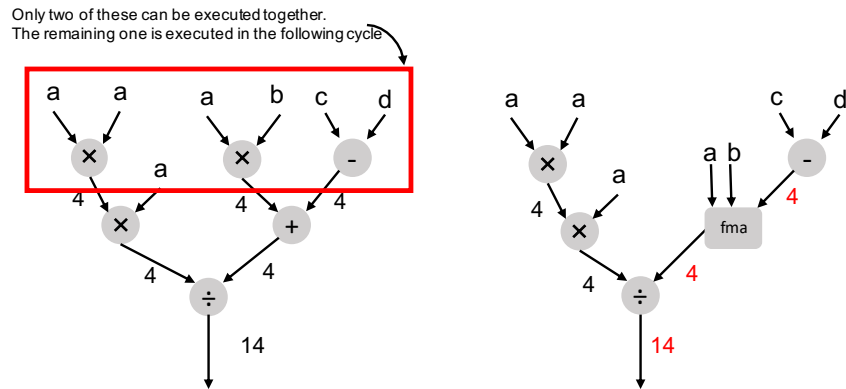

Figure 3: Dependency graph for `artcomp`.
**Solution:** Multiplications and additions are issued on the same port. Since two independent additions and multiplications can be issued in the same cycle we need to wait one cycle. This increases the critical path by one. The runtime is at least **23 cycles**, as shown in the critical path of the dependency graph in Figure 3 (left).
**Solution:** Now we can fuse an addition and a multiplication. This removes the initial contention on the floating point port. The runtime is at least **22 cycles** as shown in the critical path of the dependency graph in Figure 3 (right).